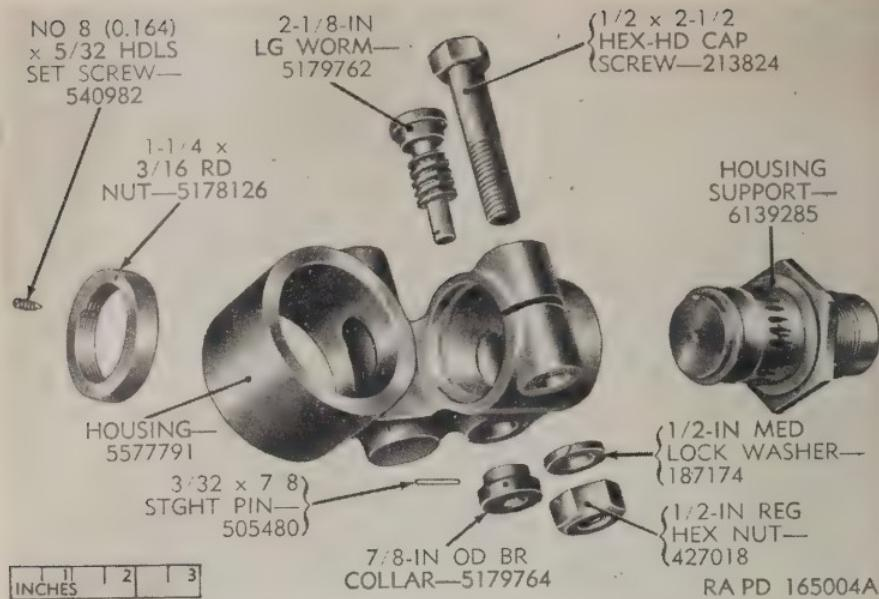

Figure 30. Telescope mount M23—housing assembly—exploded view.
55. Disassembly of the Housing Assembly (fig. 30)
(fig. 30)